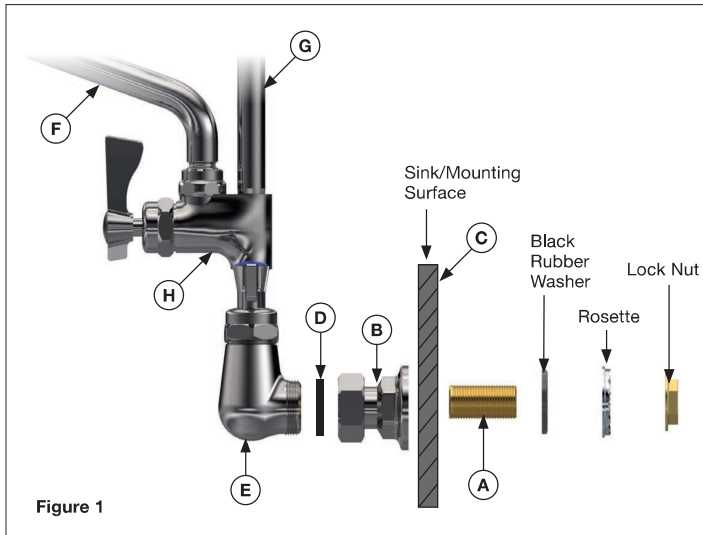

Figure 1
- Determine the position on the wall for the wall bracket brace (J), making sure it is near the top of the riser pipe (G).
- Install the head of the support rod (K) around the riser with the two supplied screws.
- The pre-rinse spray head (L), hose (M), and spring (N) have been assembled at the factory to save time.
- Loosen the spray head hook (O) and center it on the riser pipe. Tighten when it is in place.
- Install faucet spout (F) onto add-on faucet body (H) (Figure 1).